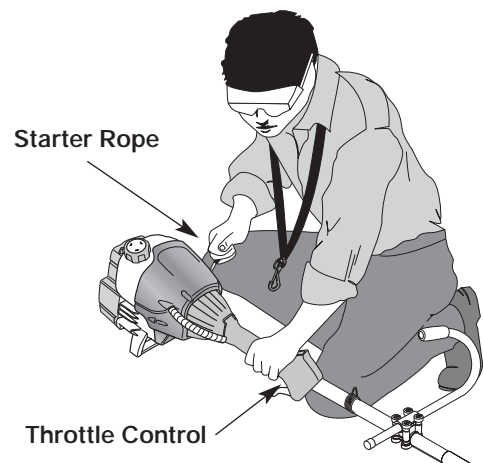

Figure 18
WARNING: Avoid accidental starting. Make sure you are in the starting position when pulling the starter rope. See Figure 18. To avoid serious injury, the operator and unit must be in a stable position while starting.
5. With the unit in the starting position, **DO NOT SQUEEZE THE THROTTLE CONTROL**. See Figure 18. Pull the starter rope 5 times briskly, making sure the EZ-Start™ lever is pushed to the left.
1. Release your hand from the throttle control. See Figure 18. Allow the engine to cool down by idling.